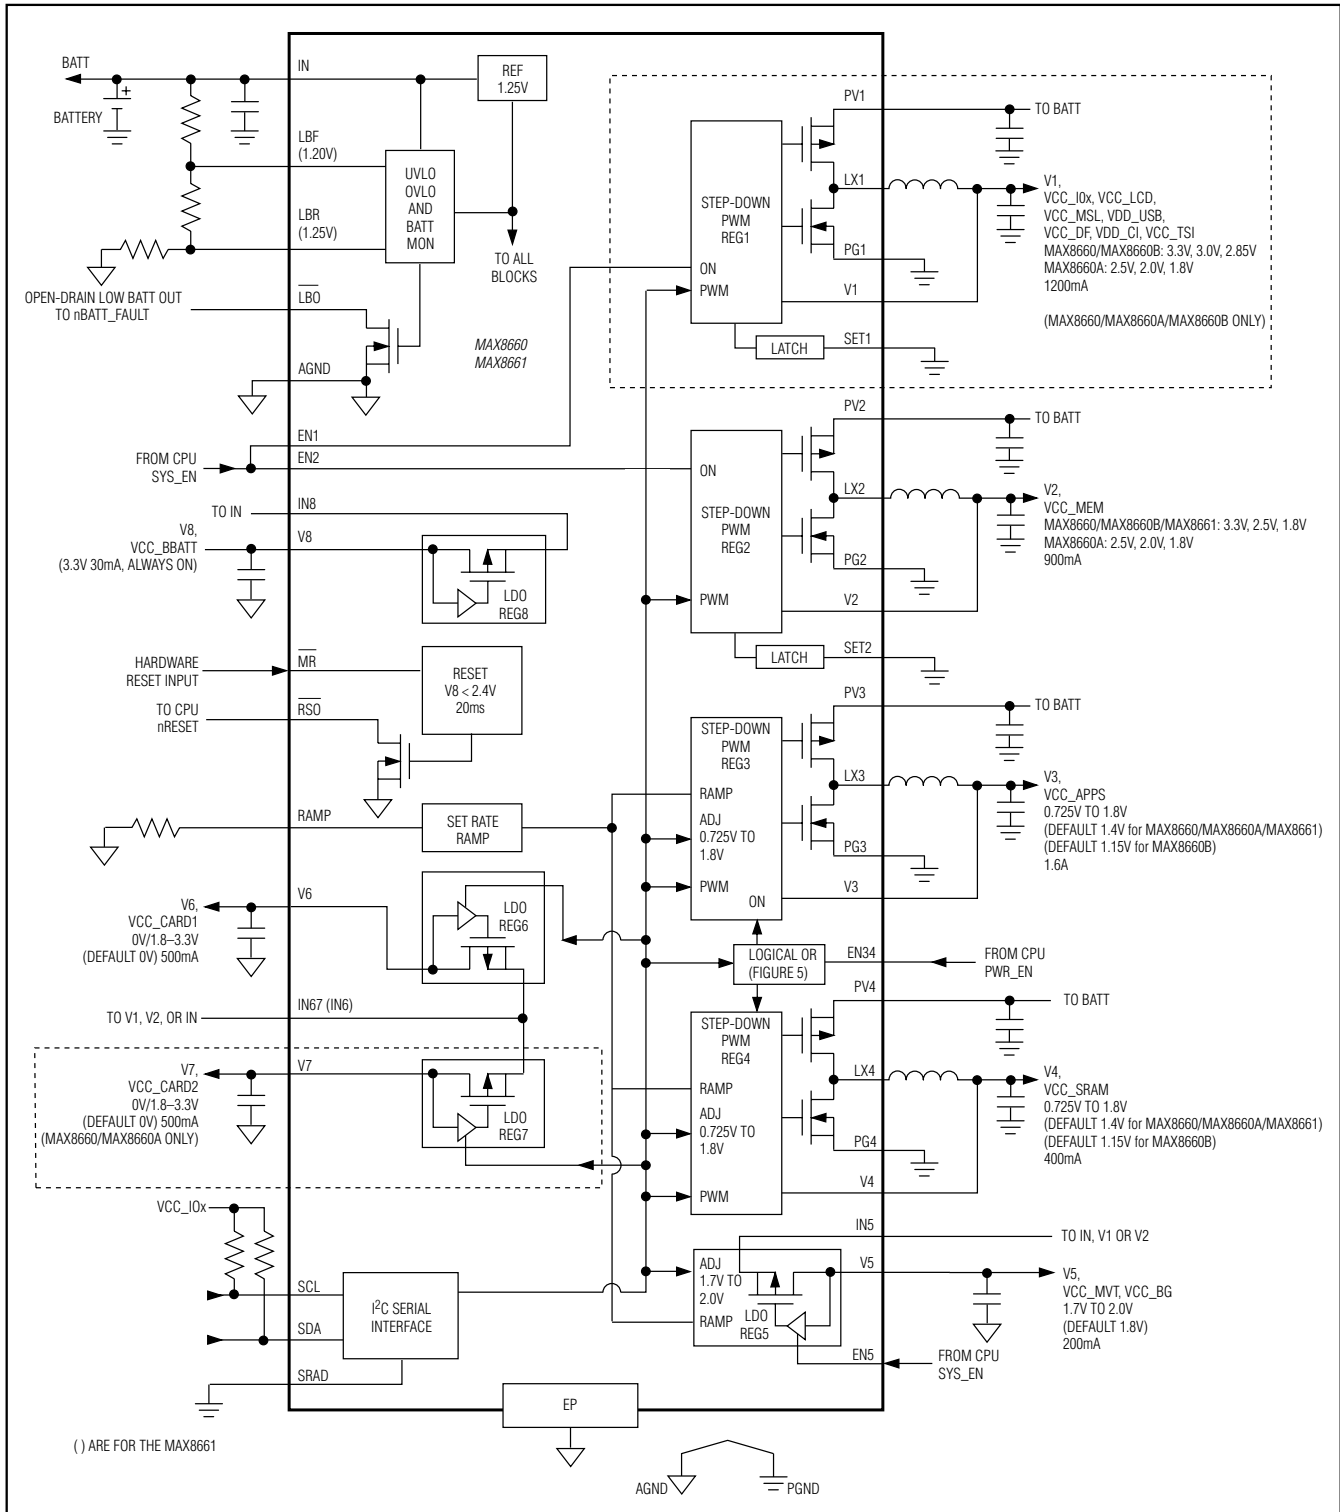

Figure 2. Functional Diagram
As shown in Figure 2, the MAX8660 integrates eight high-performance, low-operating-current power supplies. REG1–REG4 are step-down DC-DC converters, and REG5–REG8 are linear regulators. Other functions include low-battery detection (LBO), a reset output (RSO), a manual reset input (MR), and a 2-wire I2C serial interface. The MAX8661 functions the same as the MAX8660, but does not have the REG1 step-down regulator and the REG7 linear regulator.